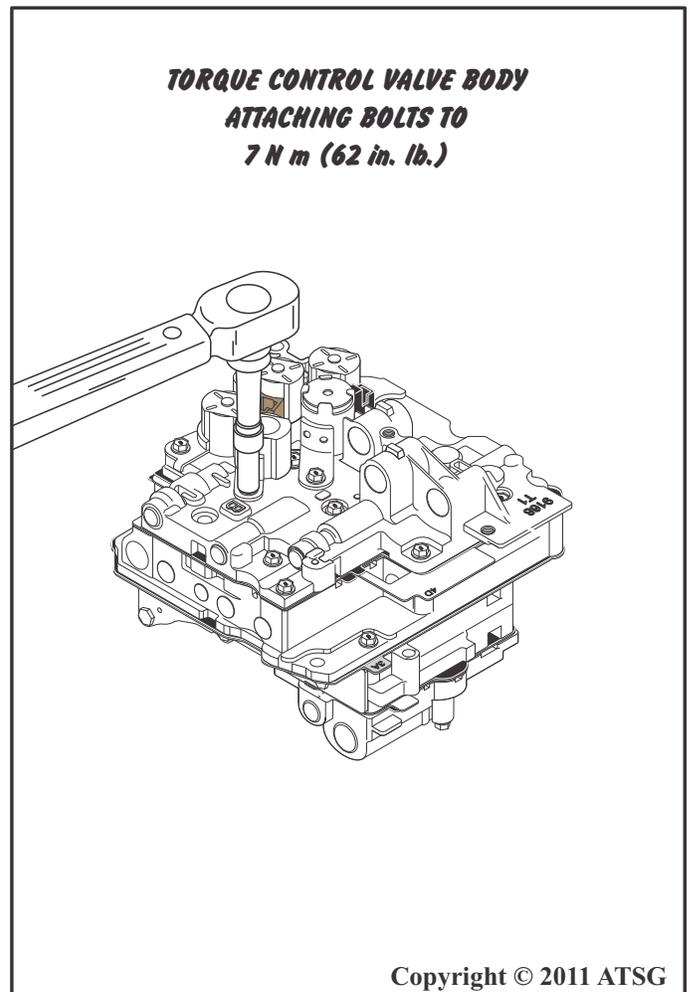

Figure 177
57. Install the five solenoid control valve body attaching bolts as shown in Figure 177.
Using a torque wrench and an 8 mm socket, tighten the solenoid control valve body bolts and torque the bolts to  $7\text{ N m}$  ( $62\text{ in. lb.}$ ) as shown in Figure 177.